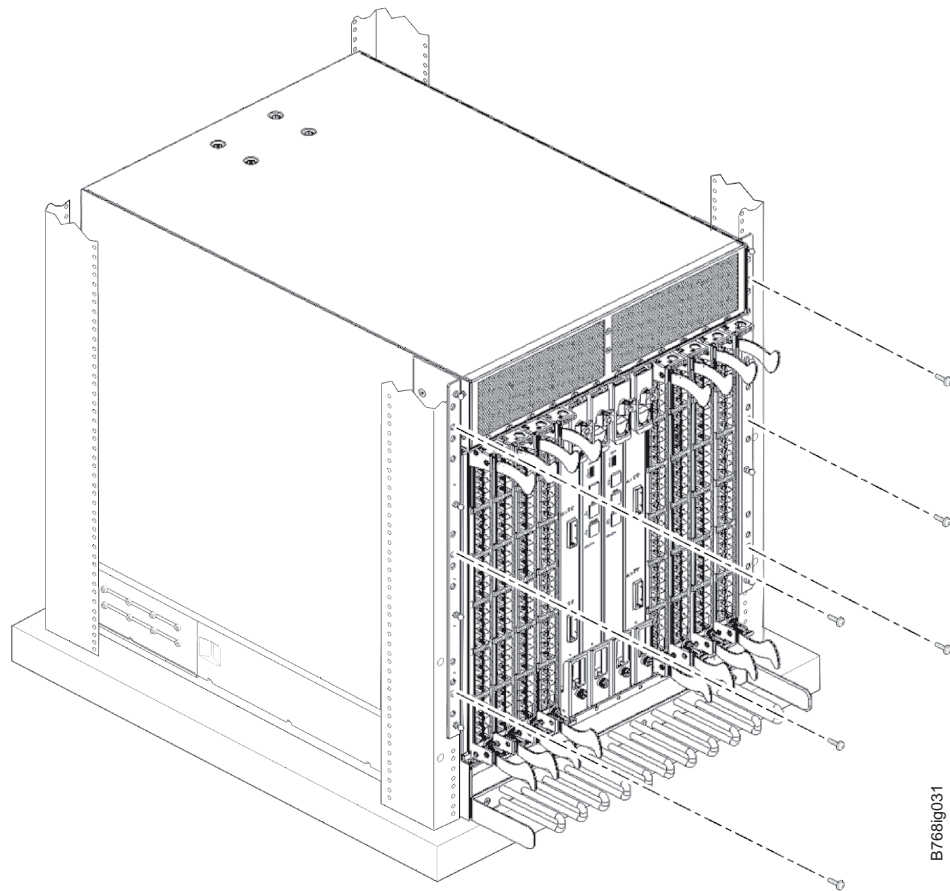

Figure 8. Attaching the port side of the chassis to the cabinet rails
20. Fasten the port side of the chassis to the cabinet rails. Use three 10–32 x 5/8-in. Phillips panhead screws with washers **C** on each side to attach to the clip nuts (**D**) or retainer nuts (**F**) installed on the rails earlier. Tighten the screws to a torque of 37 cm·kg (32 in·lb). See Figure 8 for the approximate location of the screws.
5. Remove the three 10-32 x 5/8 in. Phillips panhead screws with washers on each side. See Figure 8 on page 21 for the location of the screws.